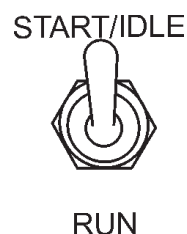

Figure 27. Speed Control Switch (START/IDLE)
- Set the Speed Control Switch to the **START/IDLE** position (Figure 27).
2. Set the Speed Control Switch to the **START/IDLE** position as shown in Figure 27 and let the engine cool for 3-5 minutes with no load applied.